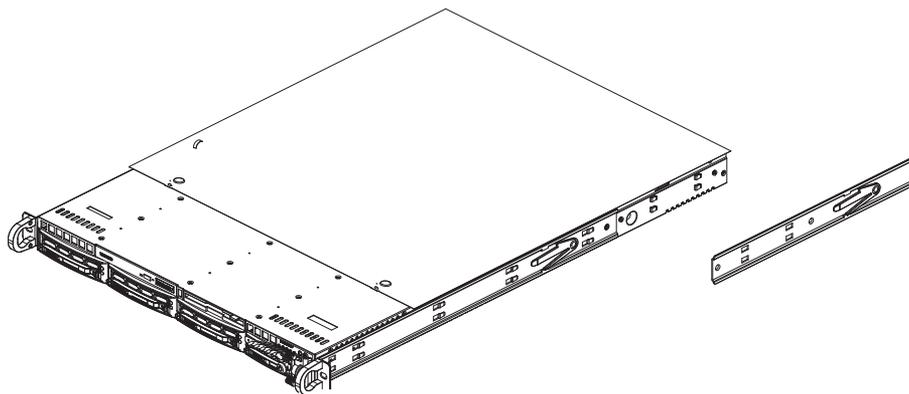

Figure 2-3 Rail to Server Chassis Attachment Example
1. Place the inner rail extensions over the pre-attached inner rails which are attached to the side of the chassis. Align the hooks of the inner rail with the rail extension holes. Make sure the extension faces “outward” just like the inner rail, reference Figure 2-3.